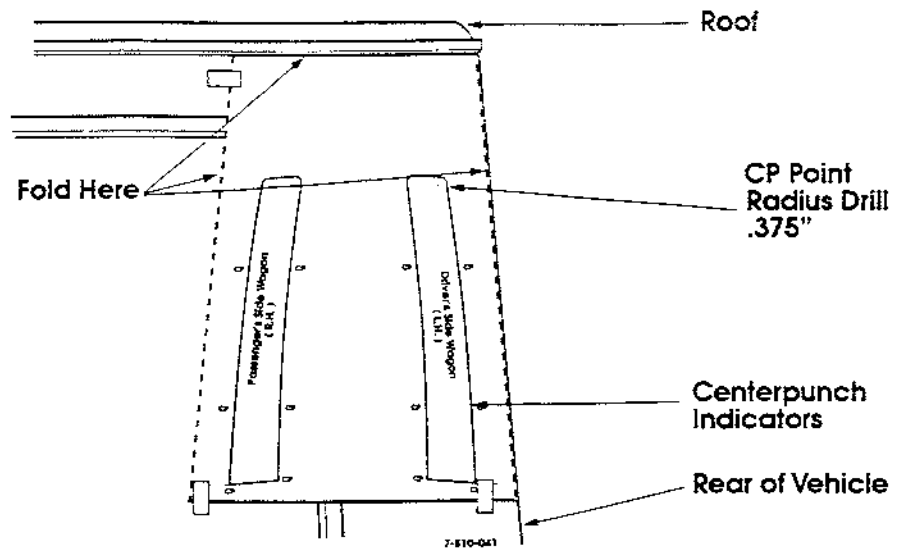

Figure 8 Template Usage (84)
4. Place template against body as indicated. Centerpunch 8 points marked on template (See Figure 8).
5. Remove template and draw a line to connect the points. Drill top corner centerpunch points with a $3/8''$ drill bit to define the radius (See Figure 8).